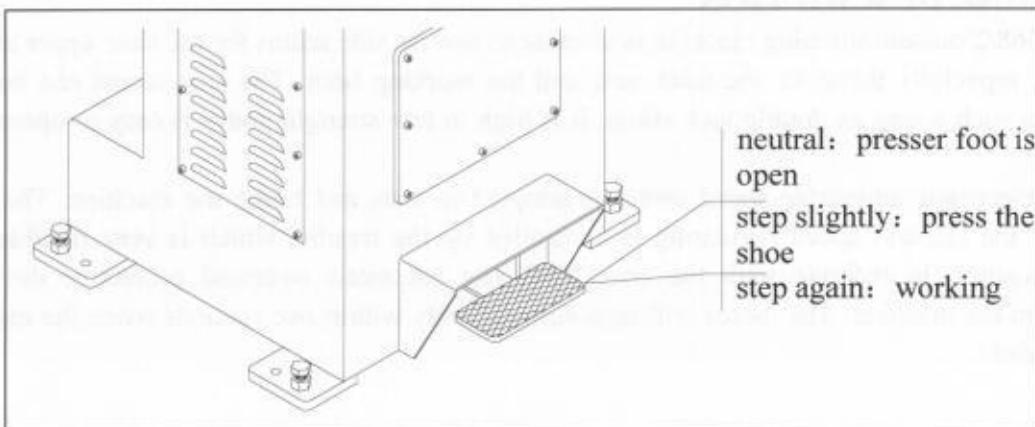

Fig.1
**3.3** Operate the start pedal. (**Fig.1**)